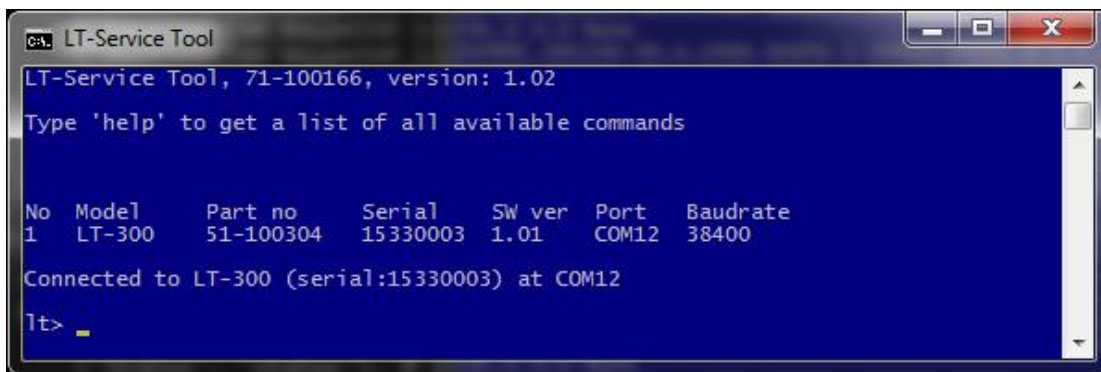

FIGURE 41: THE LT-SERVICE TOOL WILL AUTOMATICALLY SEARCH FOR LT-NAVIGATION DEVICES, WHICH ARE CONNECTED TO THE PC. A MANUAL CONNECTION MODE IS ALSO AVAILABLE.
- Step 2: The LT-Service Tool will automatically search all COM ports on the PC to identify potential LT-Navigation devices connected to the PC. Devices found, will be shown in a list, as illustrated in Figure 41.